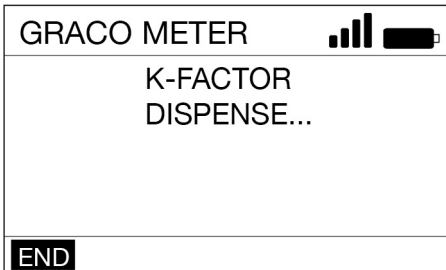

FIG. 19
6. Use the UP and DOWN arrows on the navigation pad to select ACTIVATE, then press the ENTER button on the navigation pad to begin the metered dispense valve calibration (FIG. 19).